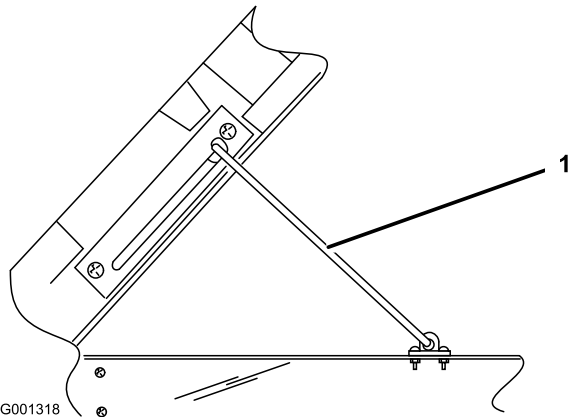

Figure 1
3. Raise the box to its full height; then lower it slightly to engage the prop rod (Figure 1).